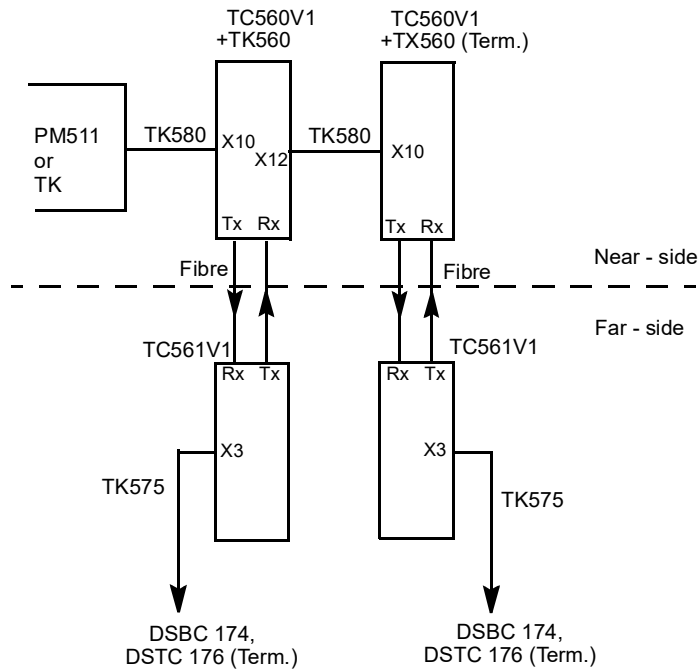
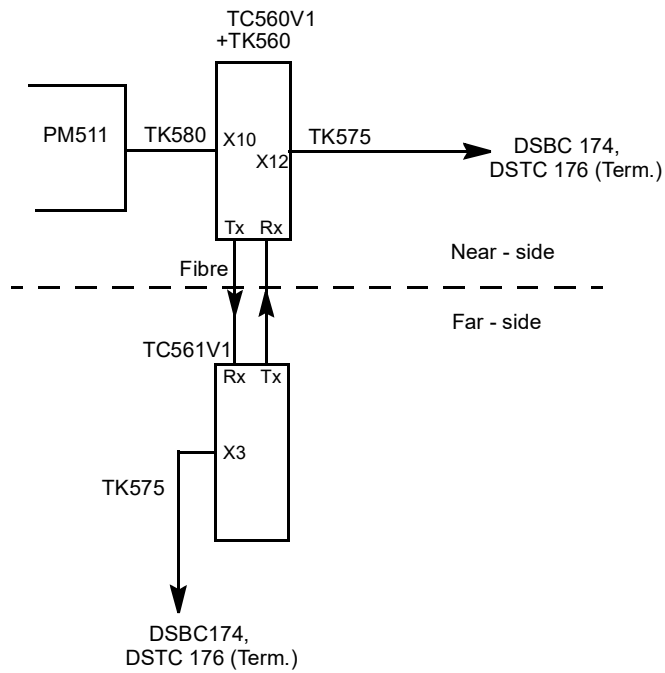

Figure 3-9. Advant Controller 450 with TC560V1 on Near-side
Figure 3-10. Advant Controller 450 with both TC560V1 and I/O Subracks on Near-side
Boundary Conditions (See Figure 3-9 - Figure 3-10)
- It is recommended that any DSBC 174 on the near-side shall be connected *after* the TC560V1s on the bus (see Figure 3-10).